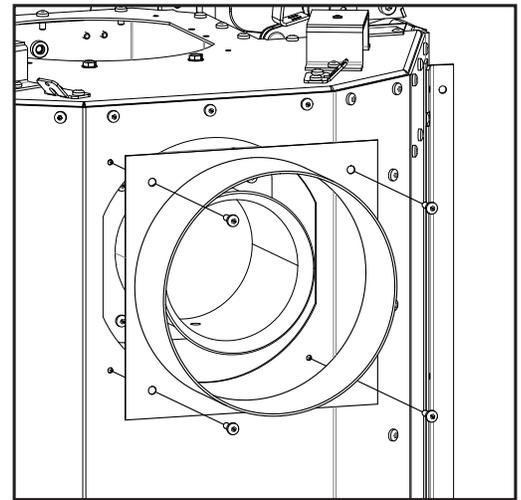

Figure 67: Vent Adapter Attachment
11. Attach the vent adapter over top of the exhaust spigot (see Figure 67).